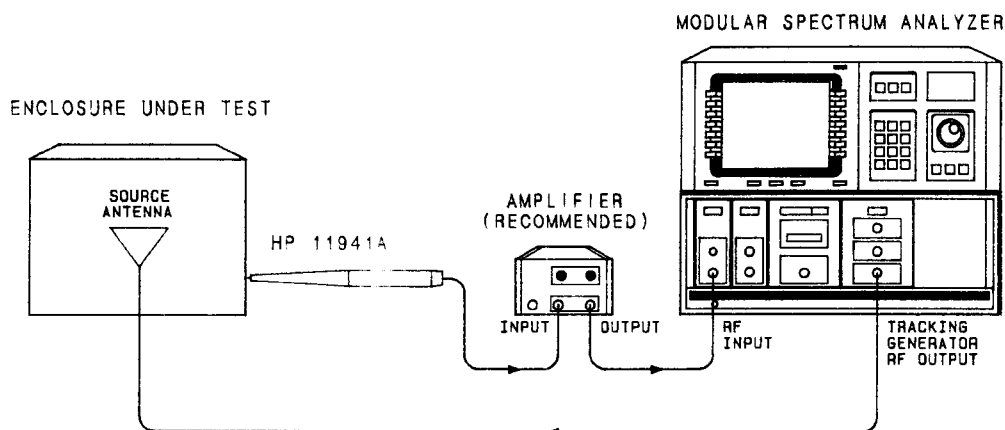

Figure 4. Stimulus-Response Test Setup
**3-14. Stimulus-Response Test Setup:** The relative shielding effectiveness of various enclosures and shielded structures can be tested using stimulus-response techniques. See figure 4. The tracking generator output signal radiates from an antenna placed inside the enclosure under test, while the probe and spectrum analyzer provide frequency and relative amplitude information. See section 3-16 for proper probe placement.